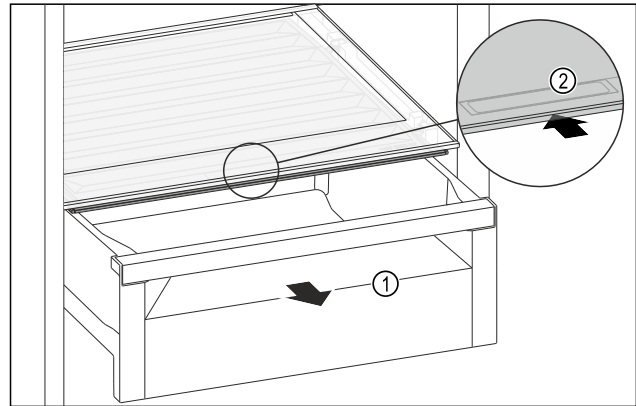

Fig. 84
- ▶ Pull out the drawer Fig. 84 (1).
- ▶ Grip the handle recess Fig. 84 (2) on the lid while pulling the lid backward at the same time.